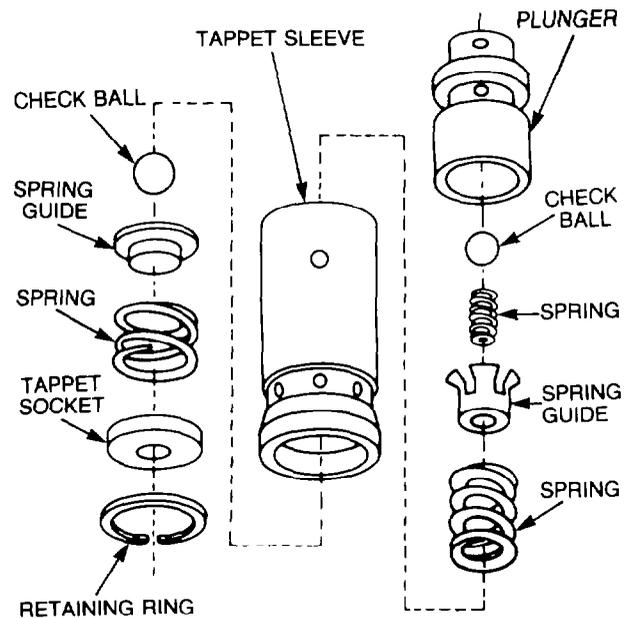

Figure 99 — STC Tappet — Components
- aw. Inspect the STC tappet components (see Fig. 99) for damage or wear and replace as necessary.